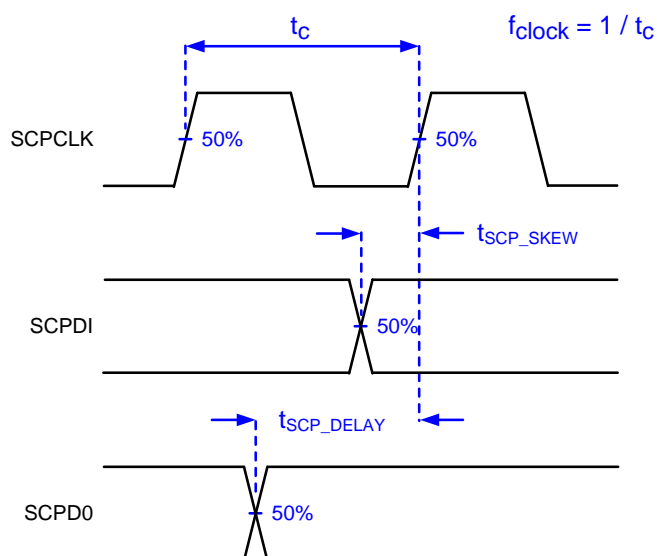

Figure 3. Serial Communications Bus Timing Parameters
(5) PWRDNZ input pin resets the SCP and disables the LVDS receivers. PWRDNZ input pin overrides SCPENZ input pin and tri-states the SCPDO output pin.
(6) The SCP clock is a gated clock. Duty cycle shall be 50% ± 10%. SCP parameter is related to the frequency of DCLK.
(7) Refer to Figure 3.
(8) SCP internal oscillator is specified to operate all SCP registers. For all SCP operations, DCLK is required.
SERIAL CONTROL BUS TIMING PARAMETERS (See Figure 3 and Figure 4)